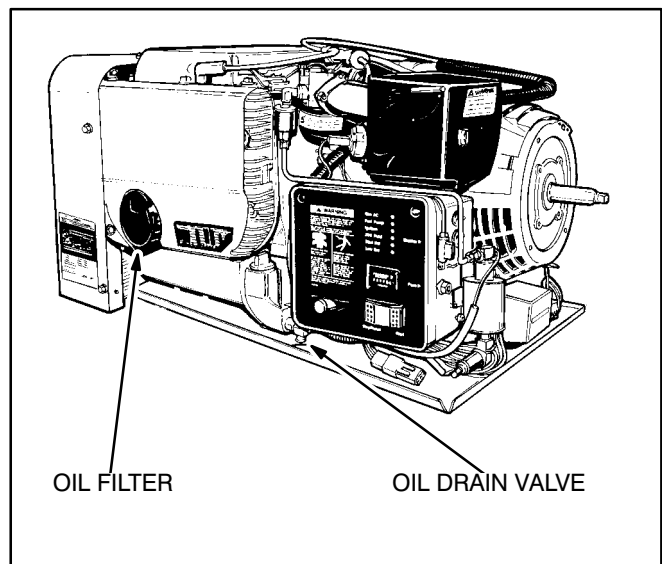

FIGURE 10. OIL DRAIN PLUG AND OIL FILTER
3. Open the oil drain valve (Figure 10) and allow all of the oil to drain from the engine.
5. Spin off the oil filter canister (Figure 10), drain it of oil and discard it according to local regulations.